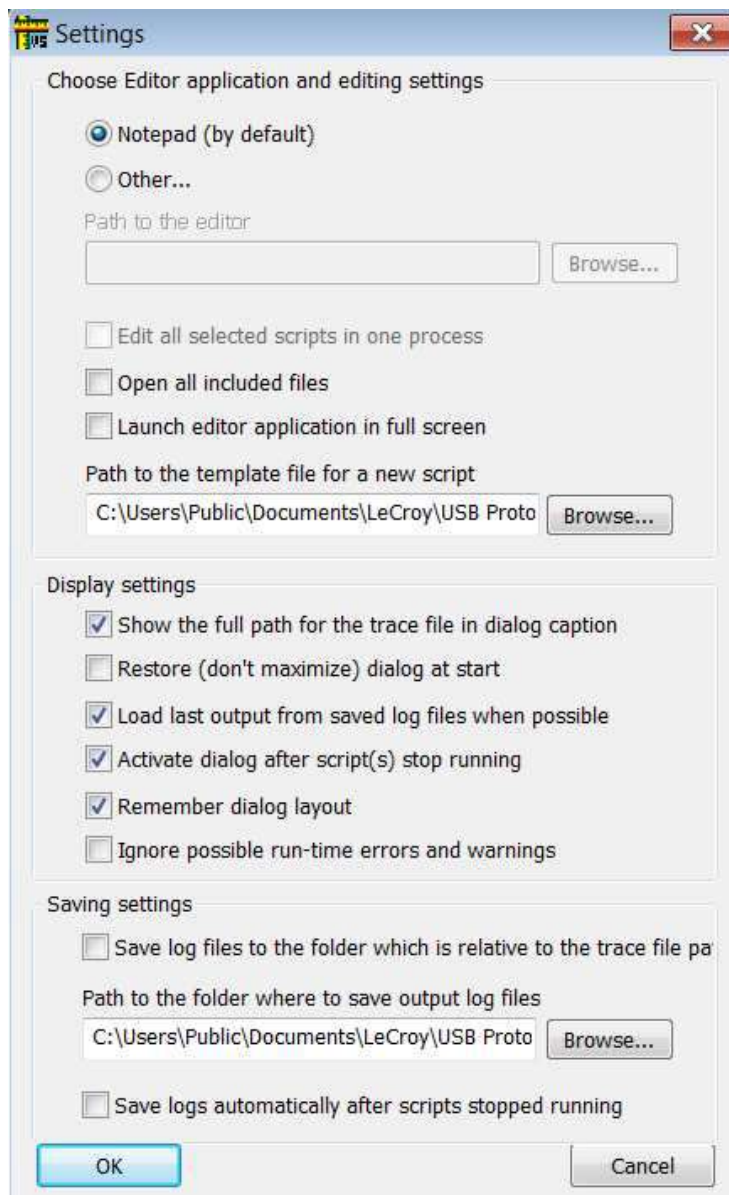

Figure 10.91: Settings Dialog
4. After choosing **Settings** from the drop-down list or the button, the Settings dialog appears (see Figure 10.91 on page 637.)